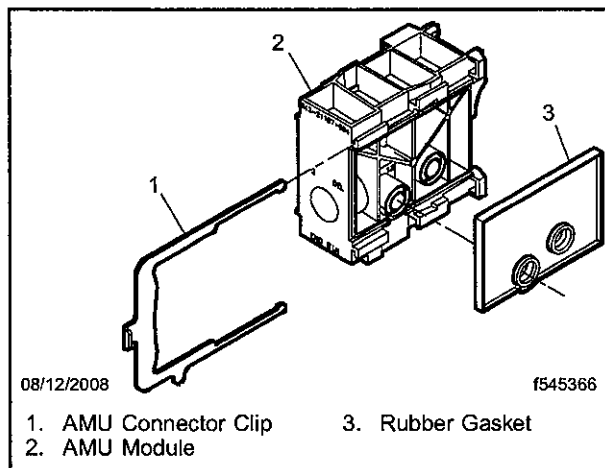
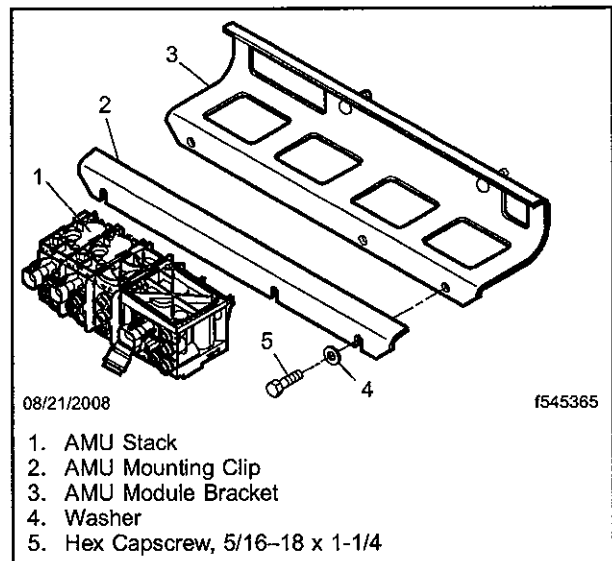

Fig. 1, AMU Module Assembly
Fig. 2, AMU Mounting
7. Remove and retain the hexnut, washer, and mounting clip that hold the AMU modules to the bracket. See Fig. 1 and Fig. 2.
12. Secure the AMU modules to the mounting bracket using the fasteners and mounting clip removed earlier. See Fig. 2 for an example of AMU mounting.